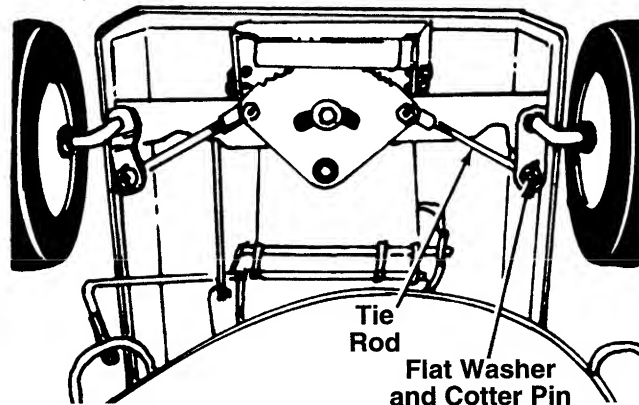

FIGURE 22.
The caster (forward slant of the king pin) and the camber (tilt of the wheels out at the top) require no adjustment. Automotive steering principles have been used to determine the caster and camber on the mower. The front wheels should toe-in 1/8 inch. See figure 22. To adjust, follow these steps:
1. Remove the cotter pin and flat washer which hold the tie rod to the axle bracket. See figure 22.